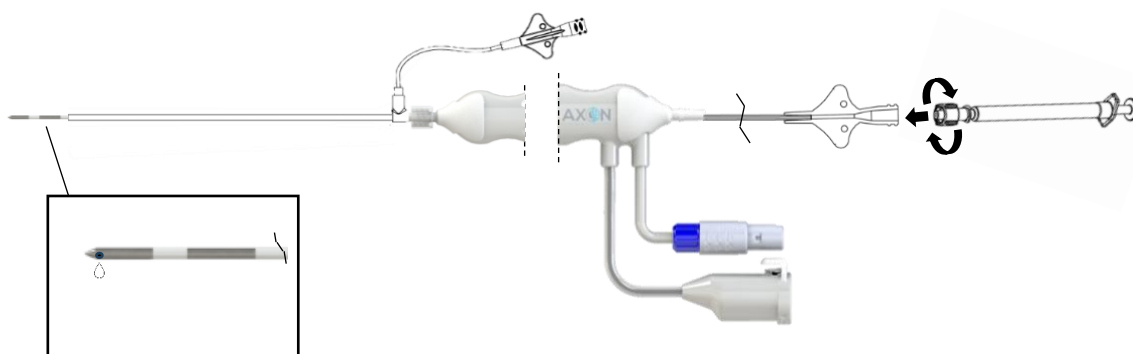

Figure 15 – Connecting the syringe to the distal needle irrigation probe
- 2. Connect the syringe to the syringe port with the probe's luer lock system (Figure 15)